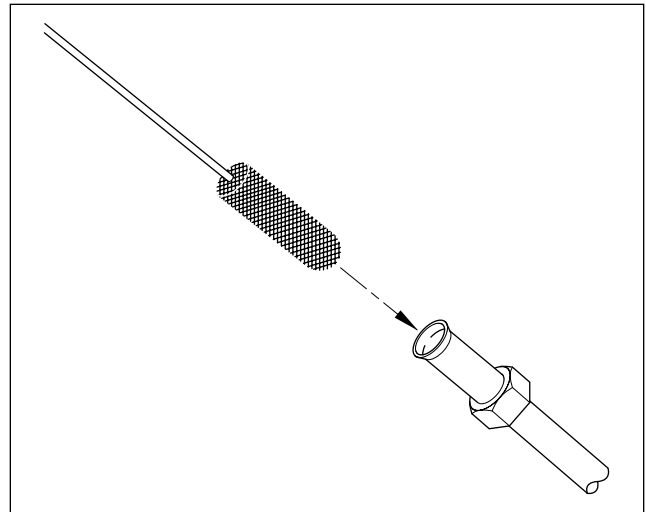

Figure 12
1. Use a properly-sized stiff stainless steel wire brush to loosen existing contaminants from the tube inside diameter, extending as far as possible into any bends in the tubing (see Figure 12).